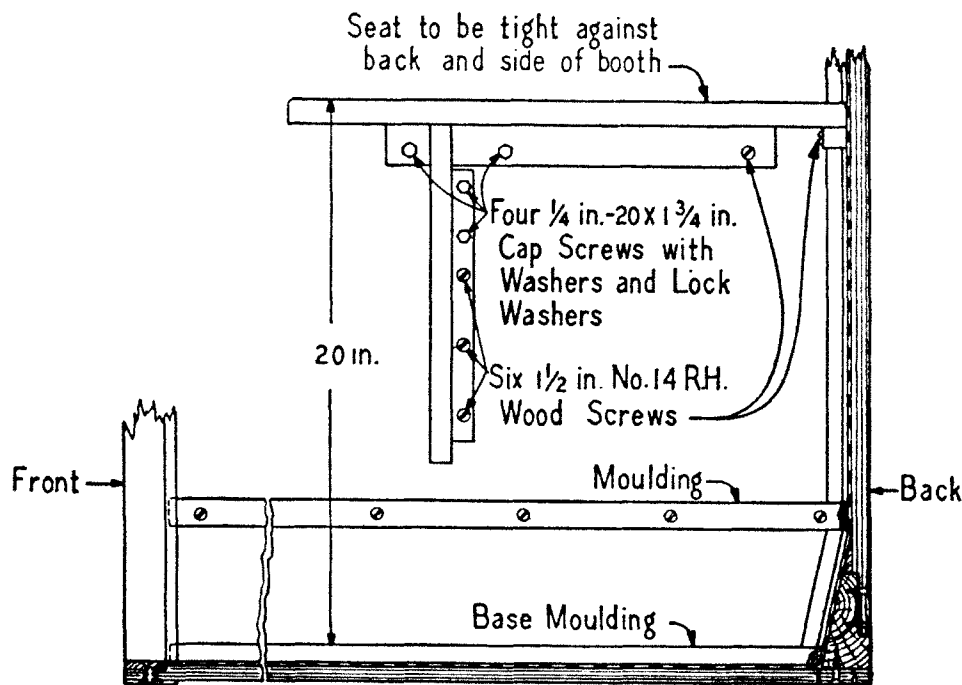

Fig. 8
2.10 If booth is equipped with 204A switch, check its operation and if defective replace it. If 204A switch is not available, replace it with a 215 type switch. To do so, remove switch from ceiling, remove 16" cable from light fixture, remove 15A rod from upper hinge on booth door and install 215 type switch (which includes pivot rod and operating rod) as shown in Figs. 8 and 18, Section C44.111.
8.04 If the booth is of war-time manufacture having a wooden base instead of steel and is equipped with a presdwood floor as shown in Fig. 8 and the floor has to be replaced, use a D-170476 floor. The existing moldings and base plates will have to be reused so use care in removing the defective floor.